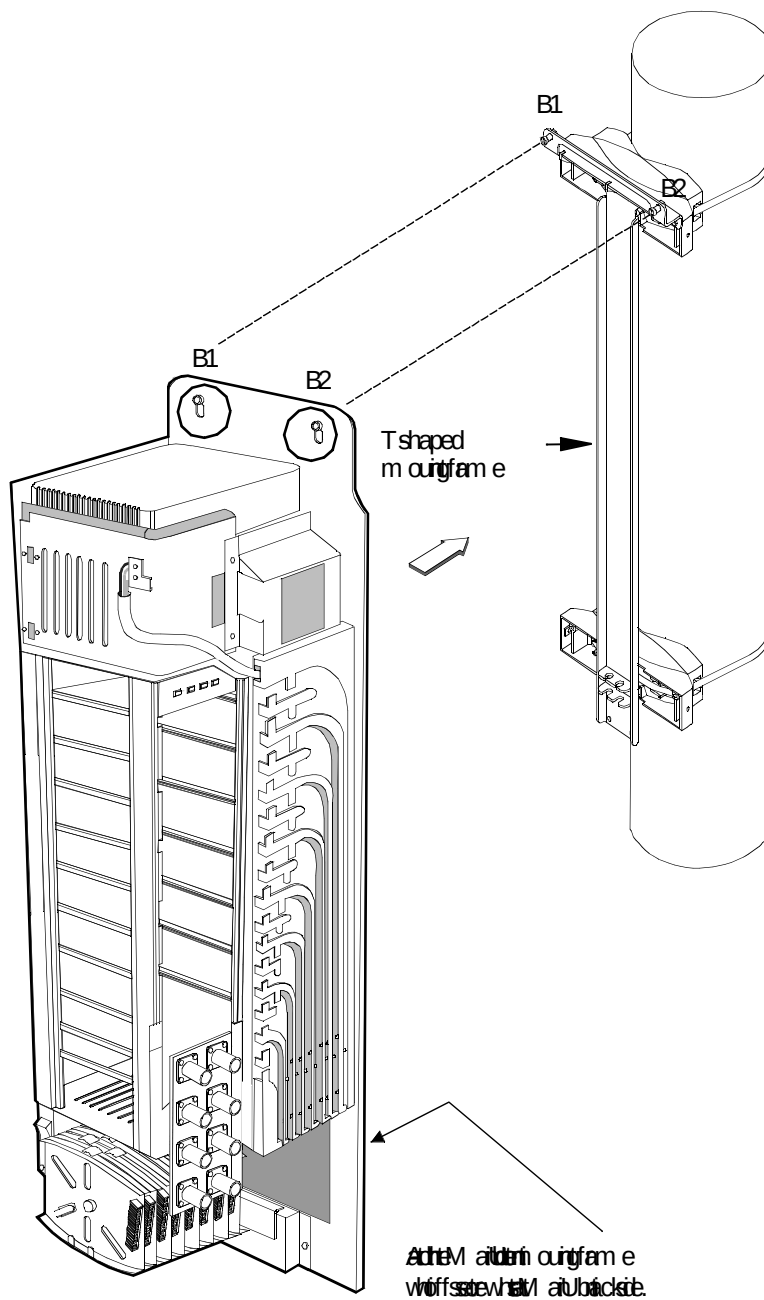

Figure 1. Phone mounting frame assembly
2. Hang the MU on the two upper MU M4 x 20mm fixing screws (B1 and B2 shown in Figure 1).
3. Tighten the upper fixing screws (B1 and B2 shown in Figure 1) to 12 Nm (8.85 ft/lb).
4. Tighten the two M6 x 25 mm offset screws (B3 and B4 shown in Figure 1) on the L-beam into the U-plate from the underside. Use a torque spanner/wrench with a 6 mm Allen bit and an 80 mm extension to tighten to 12 Nm (8.85 ft/lb).